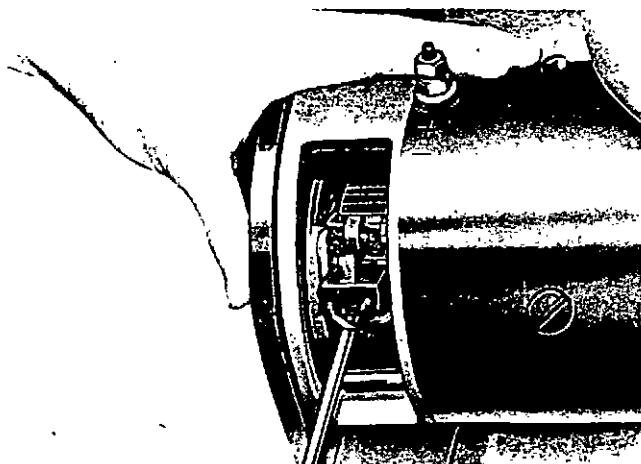

Fig. 5-40, N11308. Checking generator brushes
1. Inspect terminals for corrosion and loose connections, Fig. 5-40, and wiring for frayed insulation. Check mounting